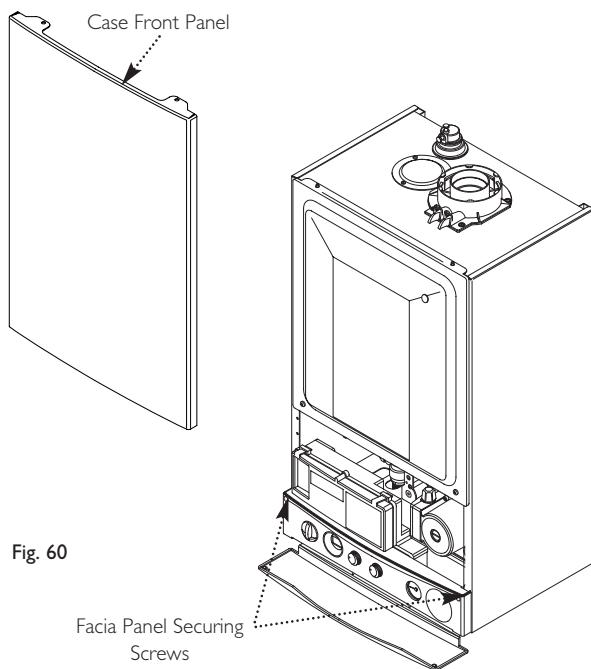

Fig. 60
3. Slacken the screws securing the facia panel. Lift the outercase panel so that its securing tabs are clear of the facia. Remove the panel, allowing the facia to hinge down (Fig. 60).